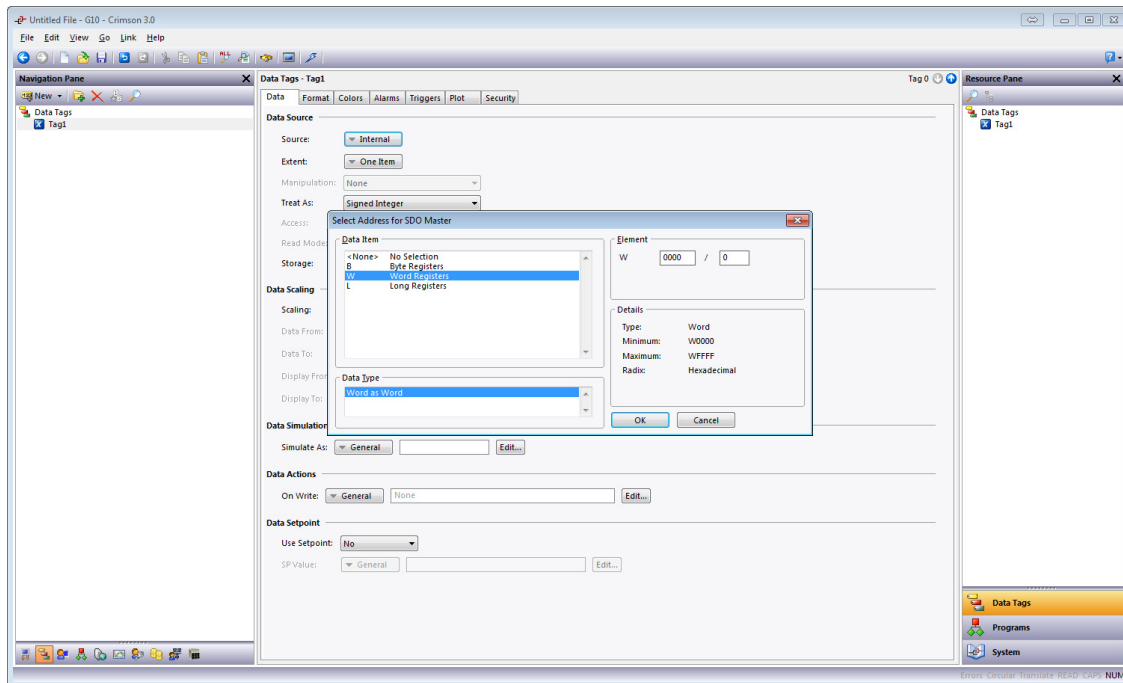

Figure 5.
4. Figure 5 shows a Word Register selected and lists all of the available data types to which tags may be mapped: